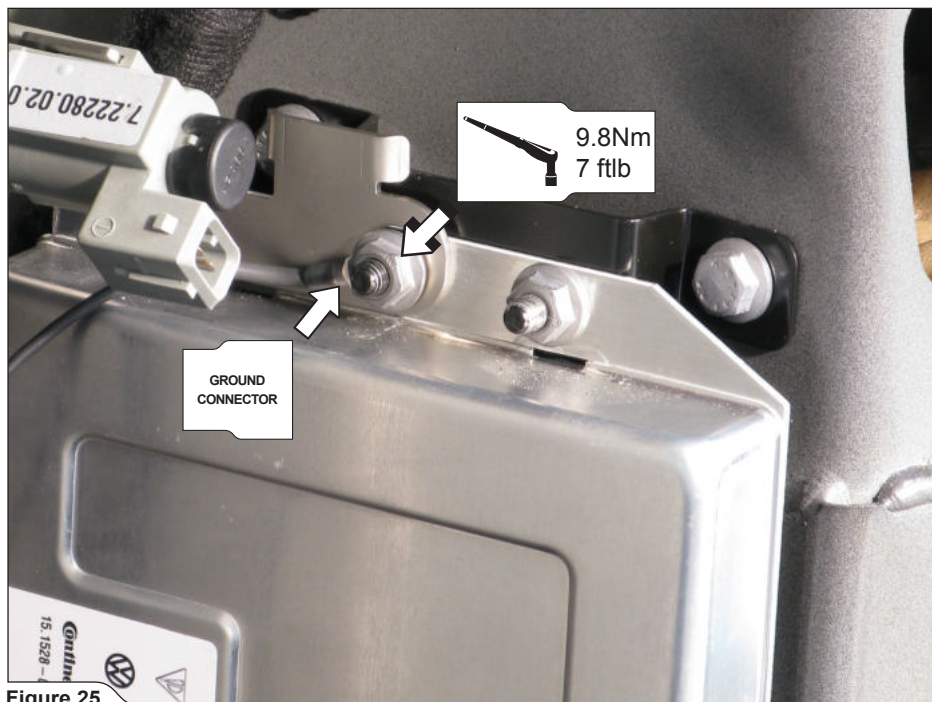

Figure 25
20. Attach the electromagnetic valve and transmitter's ground connector onto the chassis, as shown (Figure 25).